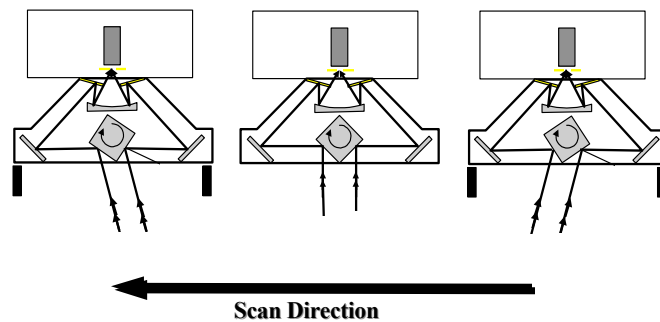

Figure 2 Kennedy Scanner Operation
The Scanner Module is a “whisk broom” strip imager. The optical scanner is based on the proven Kennedy Scanner, which employs a multi-faceted rotating mirror. As the mirror rotates, the field of view changes and data are acquired across the flight track to form a scan line (see Figure 2). The rotating mirror provides four scan cycles per mirror revolution. Scan lines are built up along the flight track and a strip map image is produced. The Kennedy scanner splits the optical field into two (2) paths and focuses them at the entrance to the spectrometer. The two optical paths are aligned for co-registration and focussed at infinity. This configuration offers a large effective collection aperture with high scan efficiency (duty cycle) in a compact configuration. The field of regard is 82 degrees. The scanning polyhedral mirror is driven by a DC servomotor and is controlled using a digital, rotary encoder. Rotational speed and absolute position of the scanning mirror are monitored using a digital controller, providing high accuracy in controlling scan properties. Encoder measurement of position is also used in conjunction with the Inertial Measurement Unit to provide real-time compensation for aircraft roll.